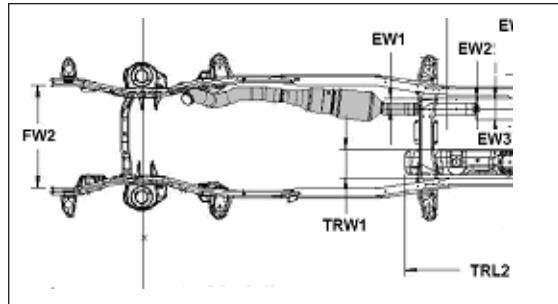

Figure 28
1. To access the PTO aperture on the right (passenger) side of the transmission, the exhaust pipe will need to be removed (**Fig. 28**).